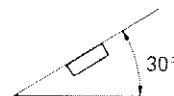

Fig. 5
- If installation angle exceeds 30° from horizontal, the unit might not give its optimum performance. (Fig. 5)